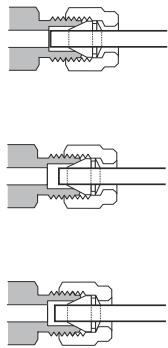

Figure 12 Completed fitting
- 10 Both correctly- and incorrectly-swaged connections are shown in Figure 12. Note that the end of the tubing in a correctly-swaged fitting is not crushed and does not interfere with the action of the ferrules.